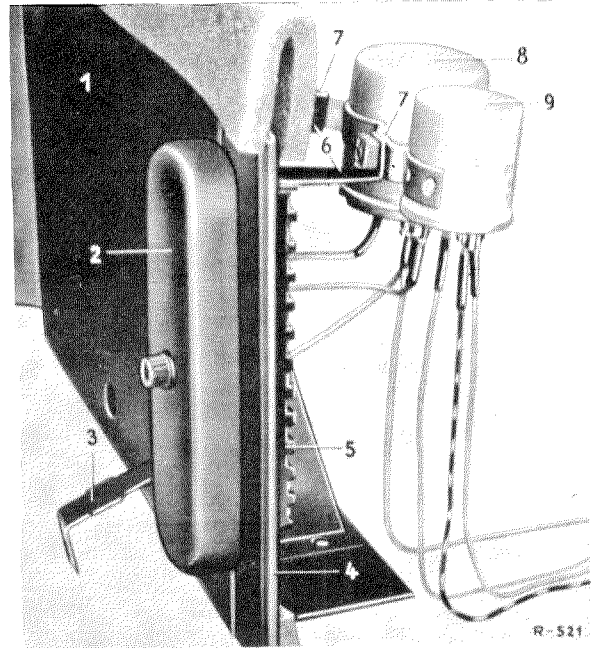

Fig. 54 — 16/1
1. Unscrew the left hexagon screw (7) behind the engine compartment panel (1) at the bracket (6) for the flash signal mechanisms.
2. Disconnect the electric cables and take out the flash signal mechanism (9) (see Fig. 54—16/1).
1. Unscrew the two hexagon screws (7) behind the engine compartment panel (1) at the bracket (6) for the flash signal mechanisms (see Fig. 54 — 16/1). Remove the two flash signal mechanisms (8) and (9).
1. Remove the flash signal mechanism for the headlight upper beam flash signal system (see Section B and Fig. 54 — 16/1).